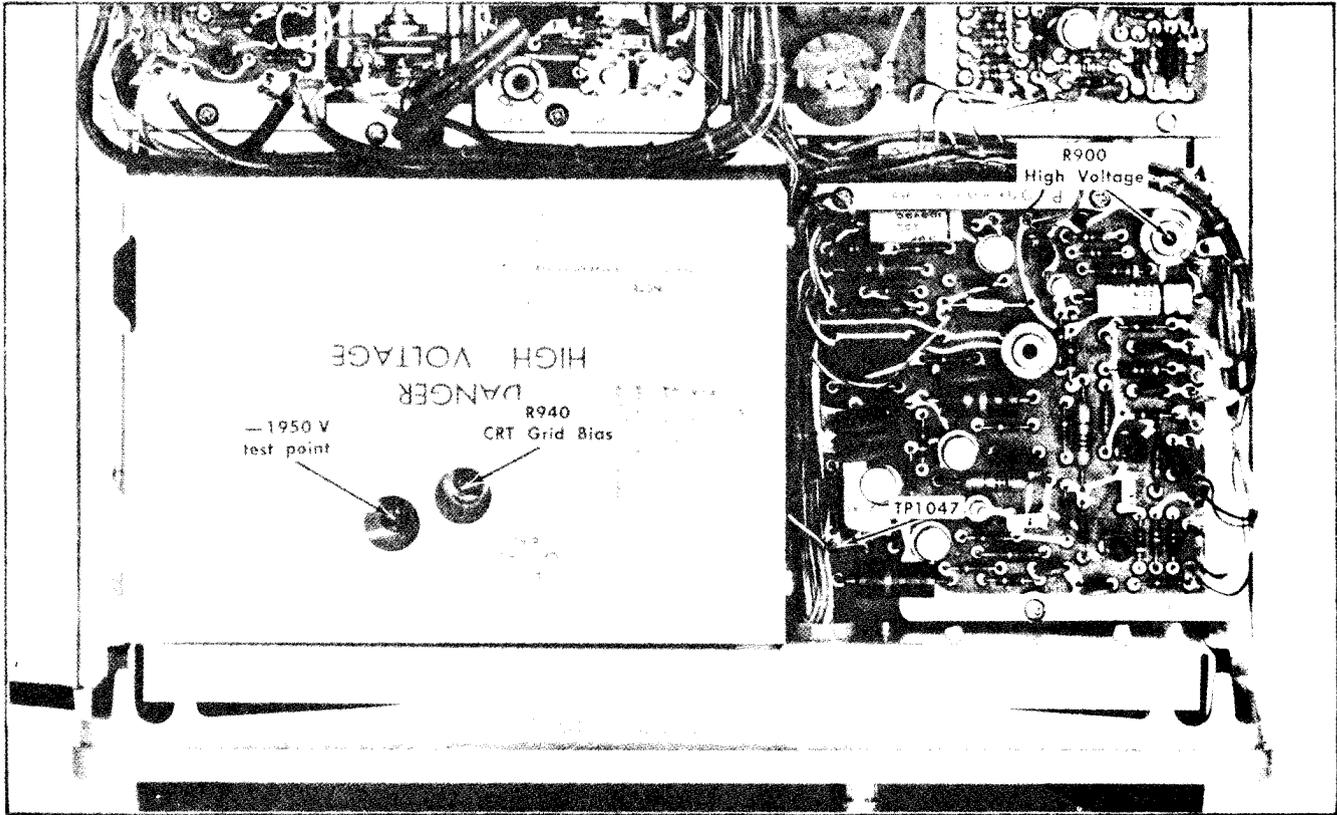

Fig. 6-6. Location of high-voltage adjustments and test points (bottom).
- a. Connect the DC voltmeter (use the precision 2 kV divider) from the -1950 V test point (see Fig. 6-6) to chassis ground.
- c. ADJUST-High-Voltage adjustment, R900 (see Fig. 6-6), for -1950 volts.
- a. Connect the precision DC voltmeter from TP1047 (Z Axis Amplifier board; see Fig. 6-6) to chassis ground.
- d. ADJUST-CRT Grid Bias adjustment, R940 (see Fig. 6-6), so the spot just disappears (it may be necessary to turn the horizontal POSITION control clockwise to bring the spot onto the viewing area).